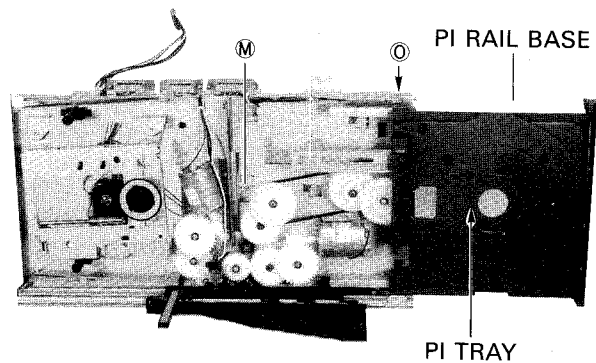

Fig.4
**8. Removing the P1 RAIL BASE Ass'y (Fig.4,8)**
**9. Removing the P1 RAIL BASE (Fig.4,5,6)**